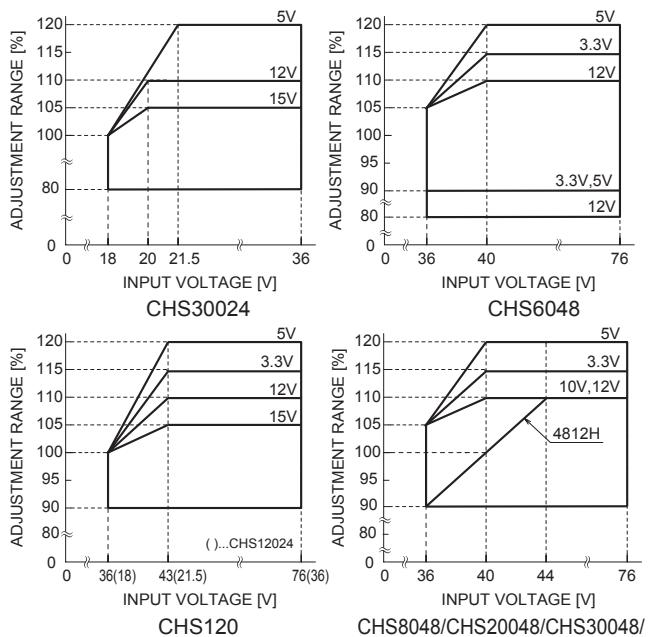

Fig.4.7 CHS Output Voltage Adjustment Range
(4) Input voltage derating
■ When input voltage is 18-21.5V DC or 36-44VDC, the output voltage adjustment range becomes as shown in Fig.4.7.